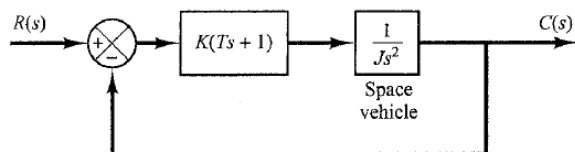

Figure 5-79
60. Figure 5-79 is a block diagram of a space-vehicle attitude-control system. Assuming the time constant T of the controller to be 3 sec and the ratio K/J to be $\frac{2}{3}$ rad²/sec², find the damping ratio of the system.